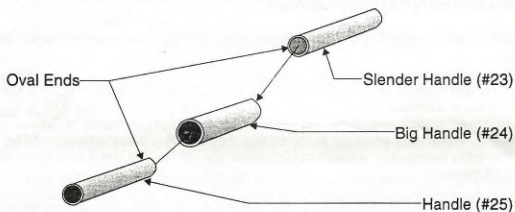

Figure 1 -- Handle Assembly
- Step 3: Insert the oval end of the HANDLE into the other end of the BIG HANDLE as shown in Figure 1. Tap the complete assembly lightly on one end with a hammer to tighten the fit.